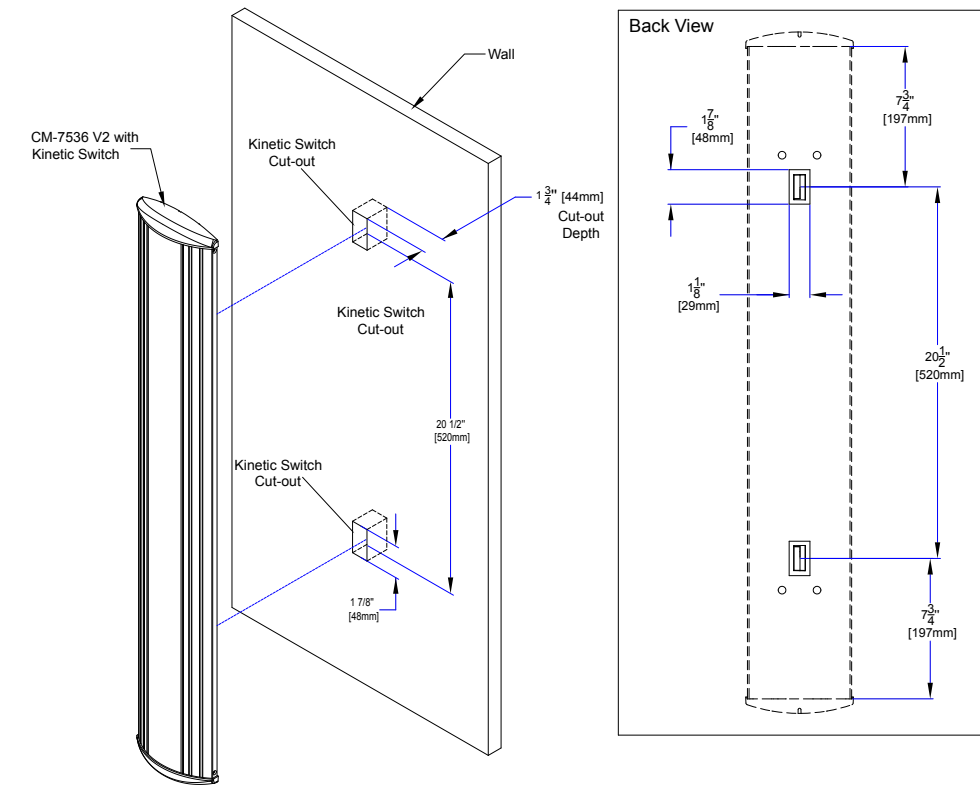

Figure 4.5 Kinetic Wall Mounting
- c. **If using Kinetic RF:** The CM-7536K uses 2 Kinetic RF switches installed near the top and the bottom of the actuator. When pairing this switch with a Kinetic receiver, you must pair both the top and the bottom switches. The pairing of Camden Kinetic transmitters is detailed in the CM-RX90v2 installation manual. (See Figure 4.5)